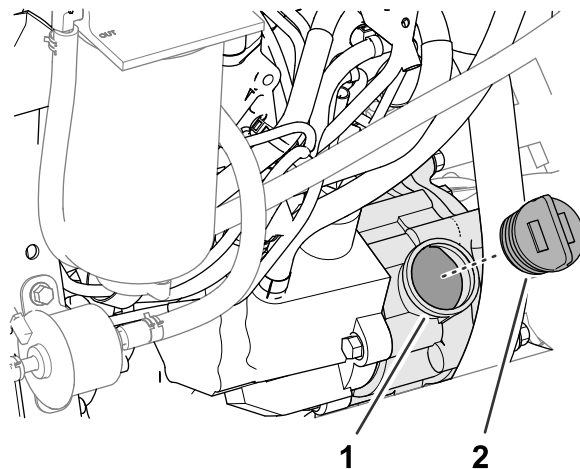

Figure 124
- If the oil level is low, remove the oil-fill cap (Figure 124) and gradually add small amounts of oil, checking the level frequently, until the level reaches the Full mark on the dipstick.